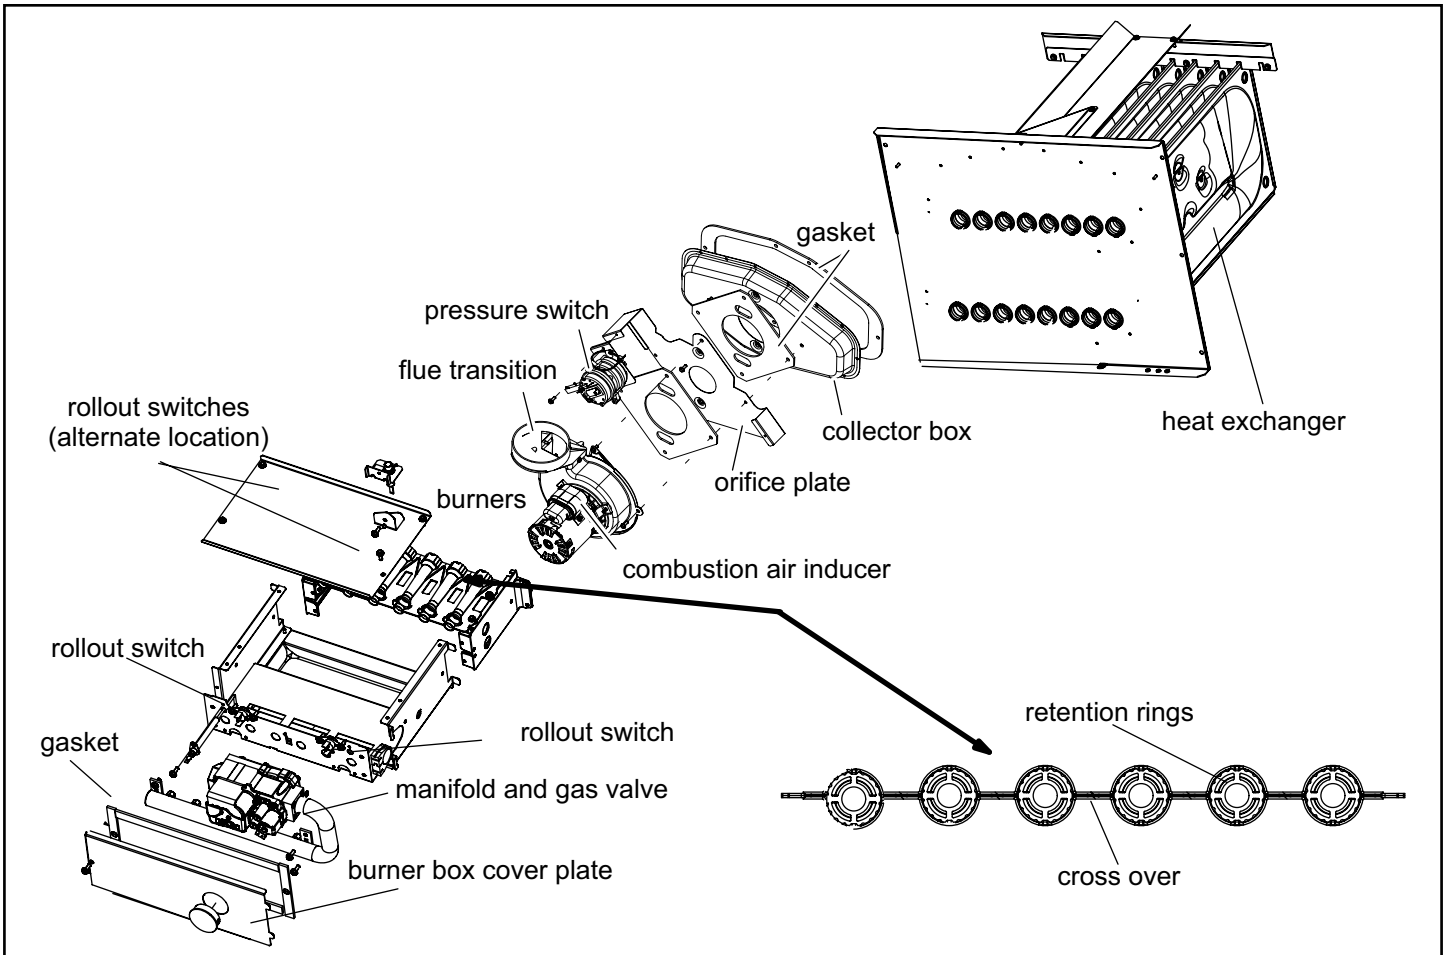

Figure 23. A80US2V Burner, C.A.I. Assembly, and Heat Exchanger Removal
12. To clean burners, run a vacuum cleaner with a soft brush attachment over the face of burners. Visually inspect inside the burners and crossovers for any blockage caused by foreign matter. Remove any blockage. Figure 23 shows burner detail.